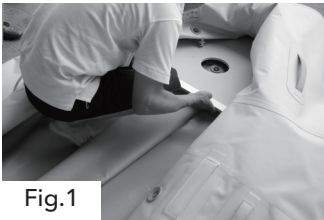

Fig.1
- 1.5 Attach the two side stringers to keep the floorboards securely in place. (Fig. 1)
- 2.1 Start the assembly from deck board installation. Insert the Board #1 into the bow and push it forward until the Air Valve of the inflatable Keel is aligned with the hole on the board. (Fig. 1)
- 2.6 Place the two curved and straight stringers to keep the floorboards securely in place. (Fig. 1)
a. Insert front bow section of the floor.(Fig.1)
BT-88850 is equipped with a foldable floorboard system. (Fig. 1)